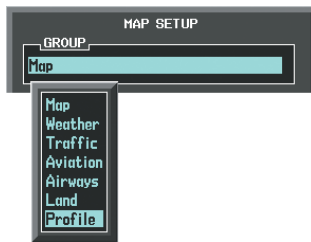

Figure 6-153 Navigation Map Page Setup Menu
- 4) Turn the small **FMS** Knob to select the 'Profile' Group and press the **ENT** Key (Figure 6-153).